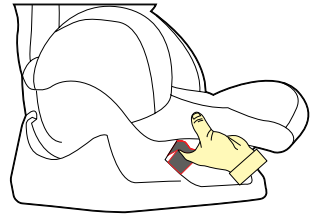

Figure 1
Step 1: Under the front of the restraint is a *GREY lever. Lift the the lever to recline. (refer Figure 1) *Colour may vary